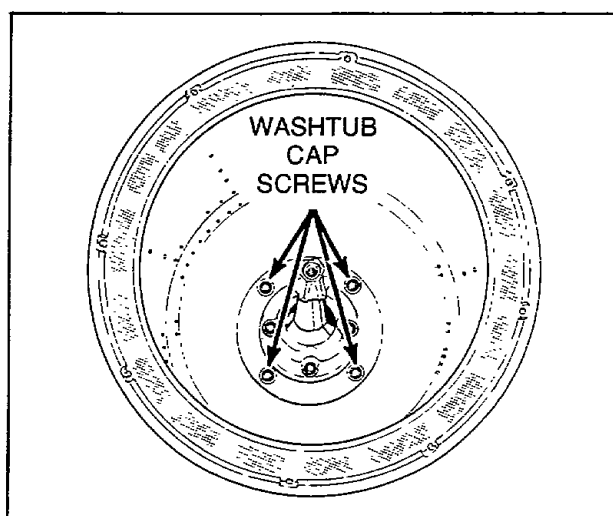

Figure 22
- Remove four cap screws and washers holding washtub to hub, *Figure 22*.
- f. Remove the four cap screws holding washtub to hub, *Figure 22*, then lift washtub out of outer tub.
- f. Remove four cap screws and washers holding washtub to hub, *Figure 22*.